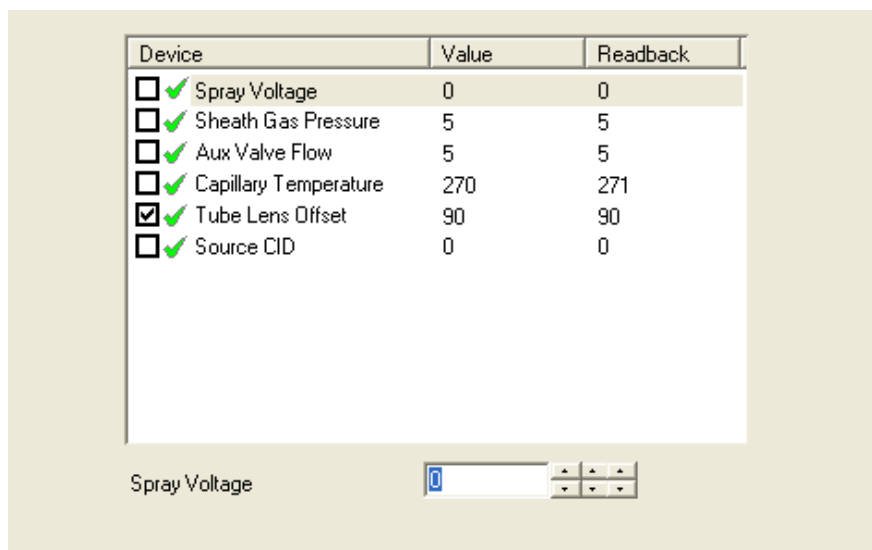

Figure 6-2. Optimize Compound Dependent Devices view
- b. Click on the Optimize Compound Dependent Devices button to display the Optimize Compound Dependent Devices view in the top right corner of the workspace. See Figure 6-2.